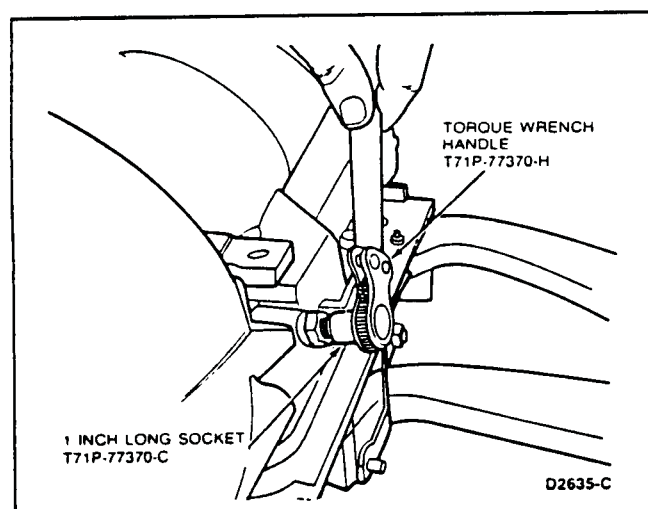

FIG. 4 Band Adjustment, Intermediate
3. Install a new locknut on the adjusting screw. Using Band Adjustment Torque Wrench Set T71P-77370-A or equivalent (Fig. 4), tighten adjusting screw until tool handle clicks. The tool is a preset torque wrench that clicks and breaks when torque on the adjusting screw reaches 14 N·m (10 lb-ft).